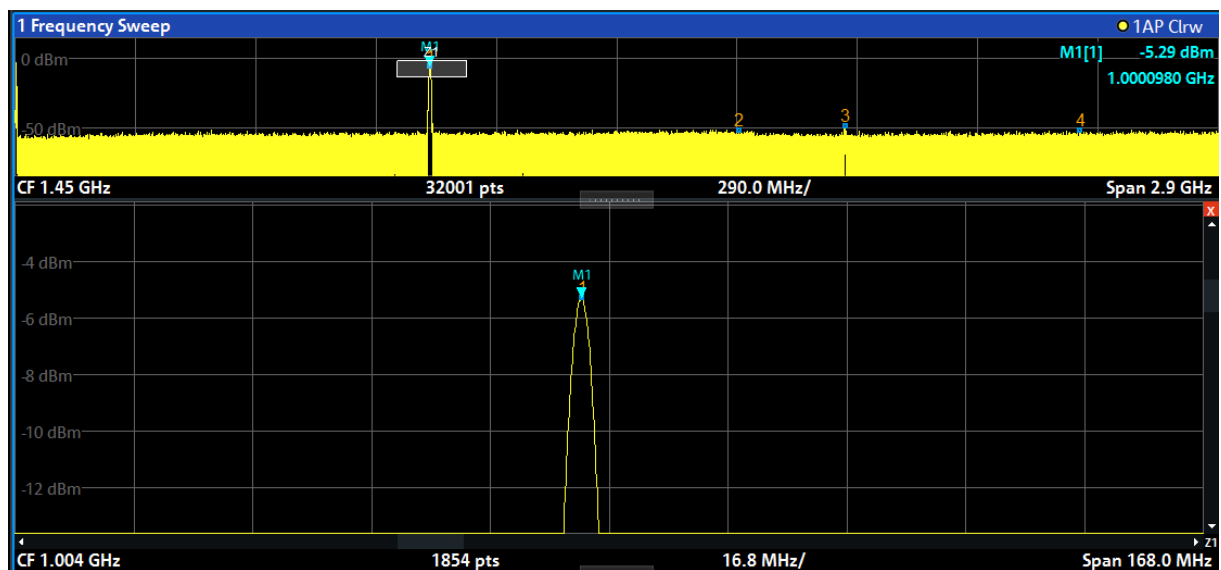

Figure 6-14: Zoomed peak with increased number of sweep points
3. In Figure 6-14, the enlarged peak is represented by a very thick trace. This is due to the insufficient number of sweep points. The missing sweep points for the zoomed display are interpolated, which provides poor results. To optimize